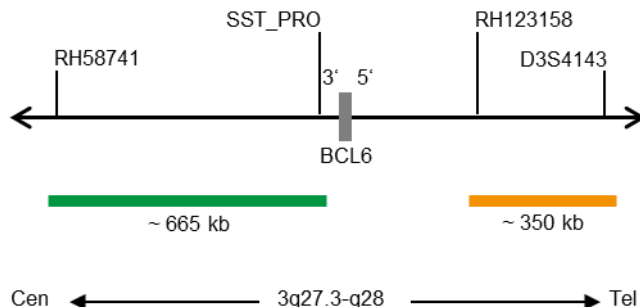

Fig. 1: SPEC BCL6 Probe map (not to scale)
- ZyGreen (excitation 503 nm/emission 528 nm) labeled polynucleotides (~10 ng/ μ l), which target sequences mapping in 3q27.3* (chr3:186,737,897-187,403,834) proximal to the BCL6 breakpoint region (see Fig. 1).
- ZyOrange (excitation 547 nm/emission 572 nm) labeled polynucleotides (~4.5 ng/ μ l), which target sequences mapping in 3q27.3-q28* (chr3:187,744,962-188,097,195) distal to the BCL6 breakpoint region (see Fig. 1).